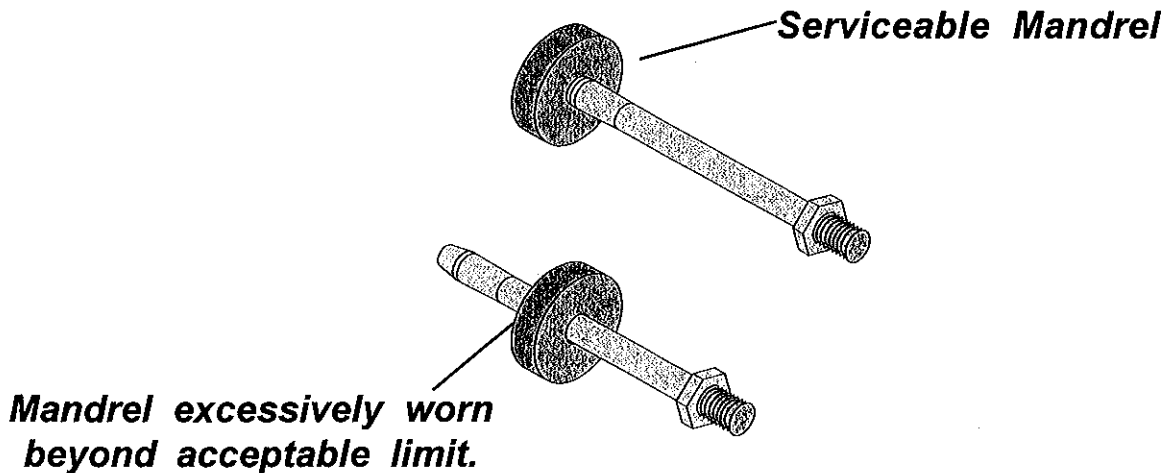

Figure 10
11. Select the proper mandrel and check major diameter for wear by inserting mandrel into mandrel gage. If the mandrel can be passed through the gage, it is excessively worn and must be discarded. (Figure 10)